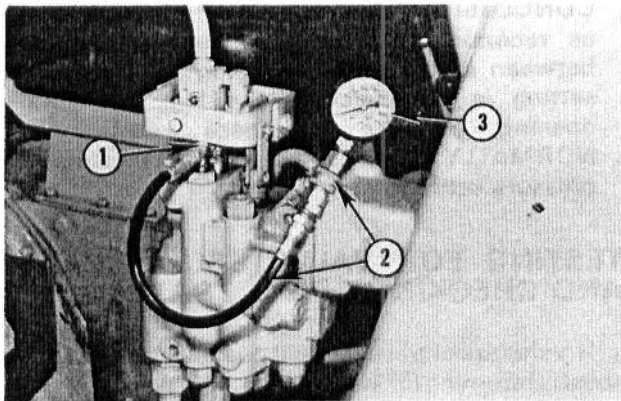
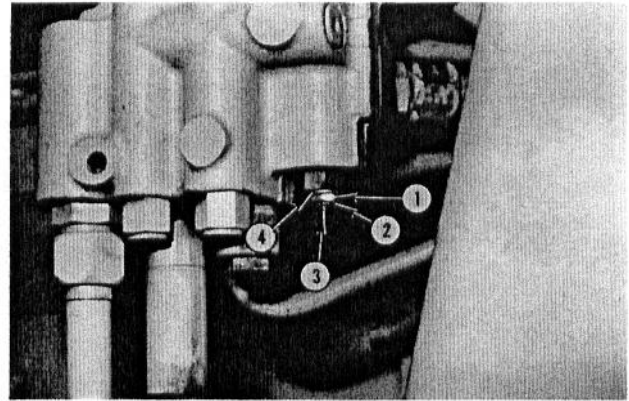

Fig. 20 — Pressure Gauge Connected to Control Valve Test Port
Fig. 22 — Relief Valve Adjusting Screw — Shield Removed
a. With pressure gauge connected as shown in Fig. 20 ... remove welsh plug at bottom of shield (for relief valve assembly) then unscrew shield retainer and remove shield (with retainer, internal washer and "O"-ring, see Fig. 22).